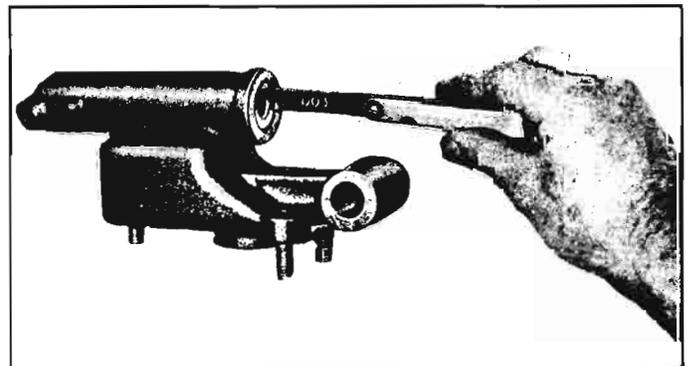

Fig. 5-21—Checking Main Cylinder Piston Fit
4. Check piston fit in cylinder bore (fig. 5-21). The clearance between piston and wall of the cylinder should be from .001"-.005".